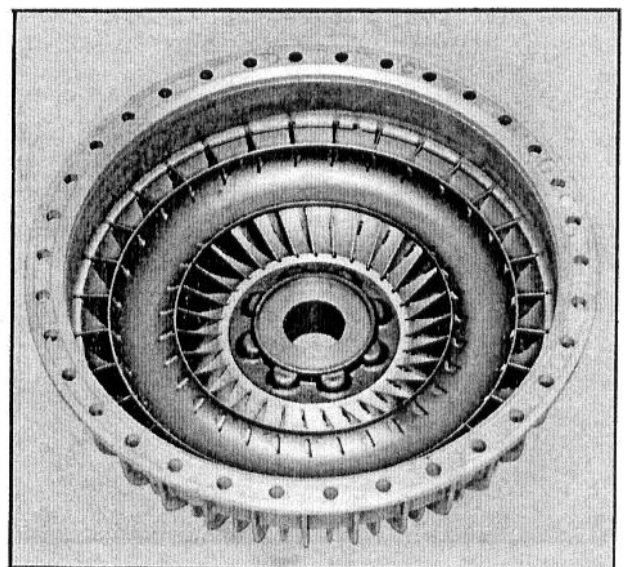

Fig. 8 - Impeller Assembly
2. Place the impeller, hub down, on the bench, as shown in Fig. 8.